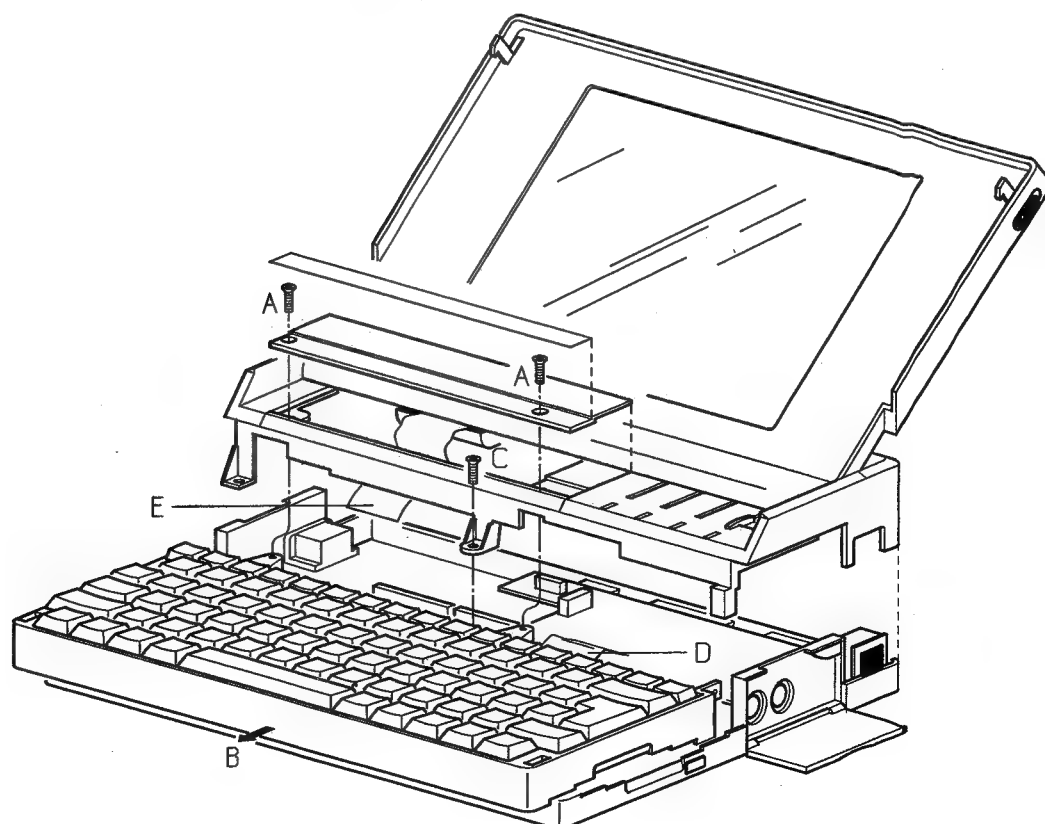
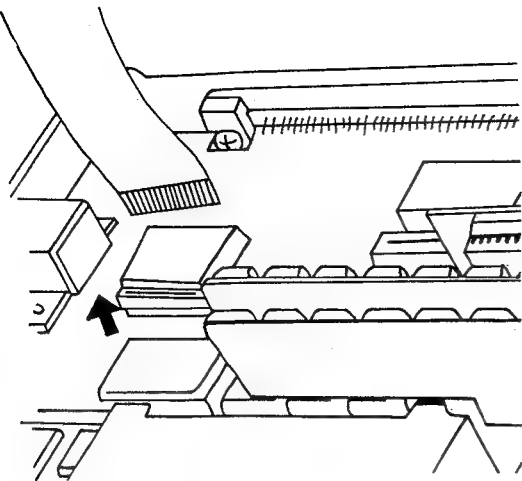

Fig. 5.2
Fig. 5.3
- For the next part refer to Fig. 5-2
- Unlock screws (A) and remove the coverplate.
- Remove the flat-cable to the LCD-display by lifting the connector and sliding the cable out, see Fig. 5-3.